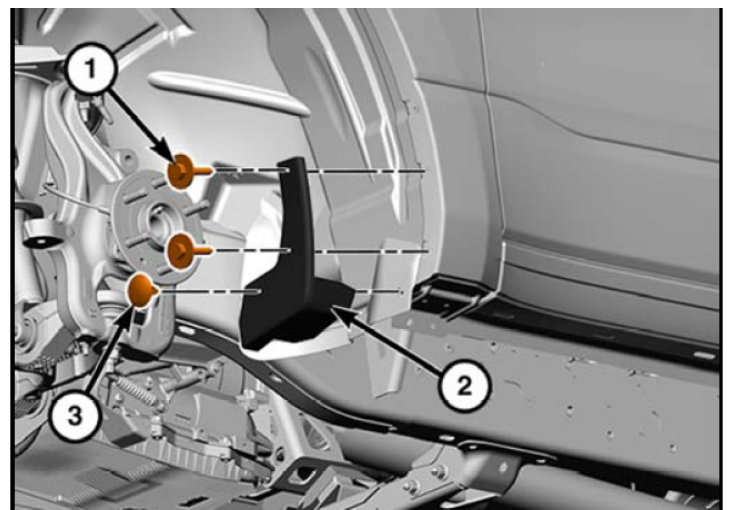

Figure 3
**4. Using an 8mm Socket wrench and plastic panel pry tool, remove the two (2) screws and one (1) push pin from the rear splash shield trim. (Figure 3)**